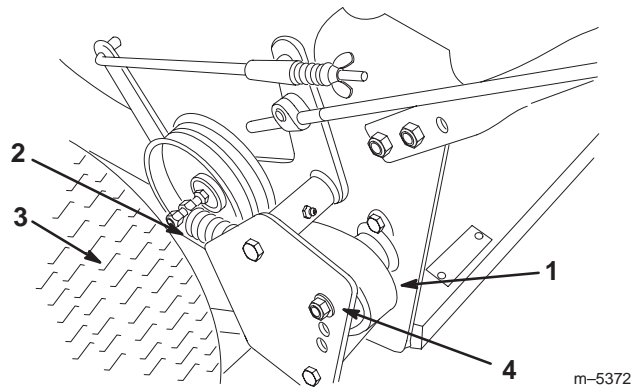

Figure 41
3. Remove the drive spring from the adjustment bolt (Fig. 41).